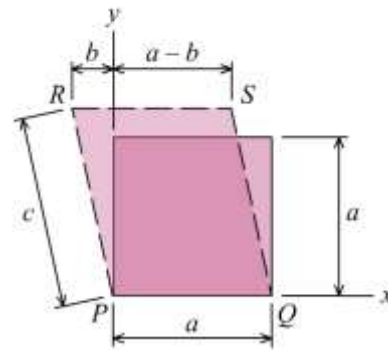

FIGURE P2.14
**P2.14** A thin square polymer plate is deformed into the position shown by the dashed lines in Figure P2.14. Assume that  $a = 800$  mm,  $b = 85$  mm, and  $c = 960$  mm. Determine the shear strain  $\gamma_{xy}$  after deformation: